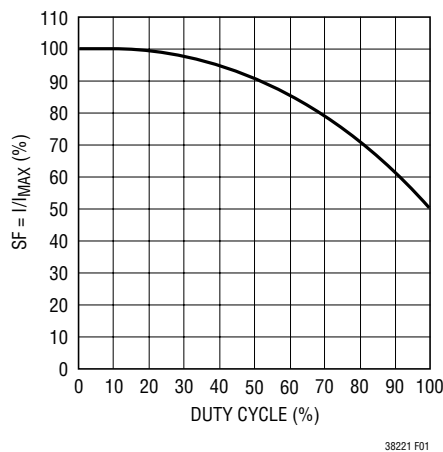

Figure 1. Maximum Peak Current vs Duty Cycle
However, once the controller's duty cycle exceeds 20%, slope compensation begins and effectively reduces the peak sense voltage by a scale factor (SF) given by the curve in Figure 1.
where SF is a scale factor whose value is obtained from the curve in Figure 1.
Setting ripple current as 40% of  $I_{OUT(MAX)}$  and using Figure 1 to choose SF, the value of  $R_{SENSE}$  is: